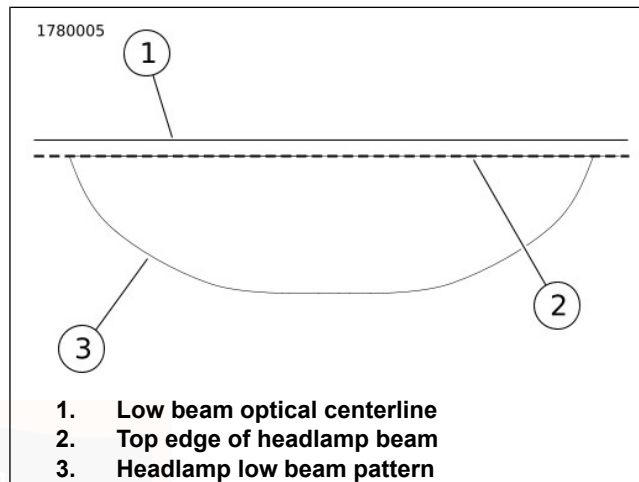

Figure 116. Alignment of Headlamp Low Beam
2. See Figure 116. Turn the adjuster CW or CCW to adjust the light beam (3) until the top edge meets horizontal line (2).